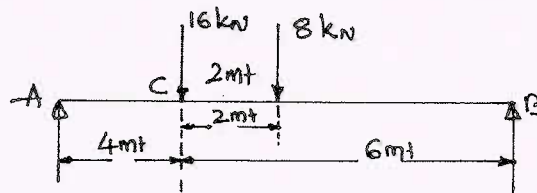

Fig.Q.10
- 10 Fig.Q.10 shows two wheel loads of 16kN and 18kN at a fixed distance apart of 2mt, cross a beam of 10mt span. Draw the influence line for bending moment and shear force for a point 4mt from the left abutment and find the maximum bending moment and shear force at that point. (16 Marks)